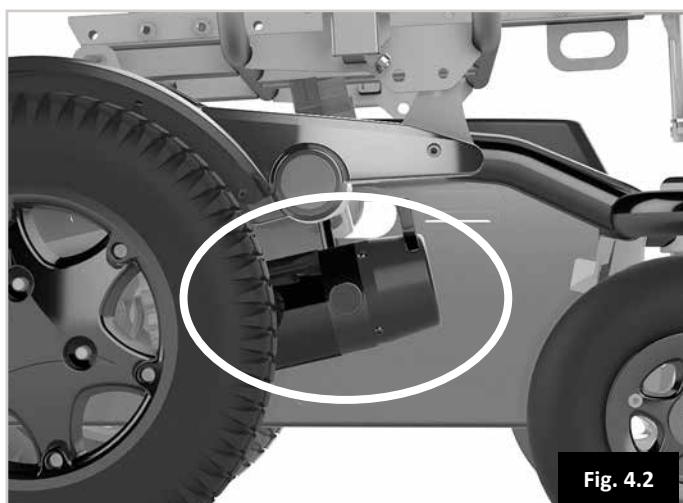

Fig. 4.2
4.7 Freewheel device, (Fig.4.2):